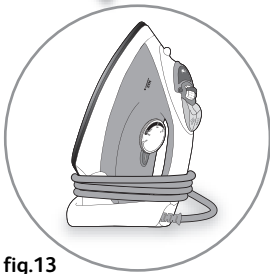

fig.13
- Store the cold iron on its heel (**fig.13**).